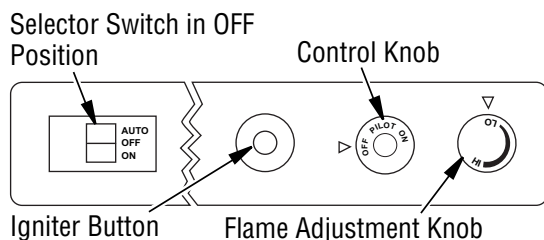

Figure 33 - Control Knob and Igniter Button Location (Shown as Supplied - No Control Options)
4. Press in and turn control knob clockwise  to the OFF position (see Figure 33).
5. Wait five (5) minutes to clear out any gas. Then smell for gas, including near the floor. If you smell gas, STOP! Follow "B" in the safety information, column 1. If you don't smell gas, go to the next step.
6. Press in and turn control knob counterclockwise  to the PILOT position. Press in control knob for five (5) seconds (see **Figure 33**).